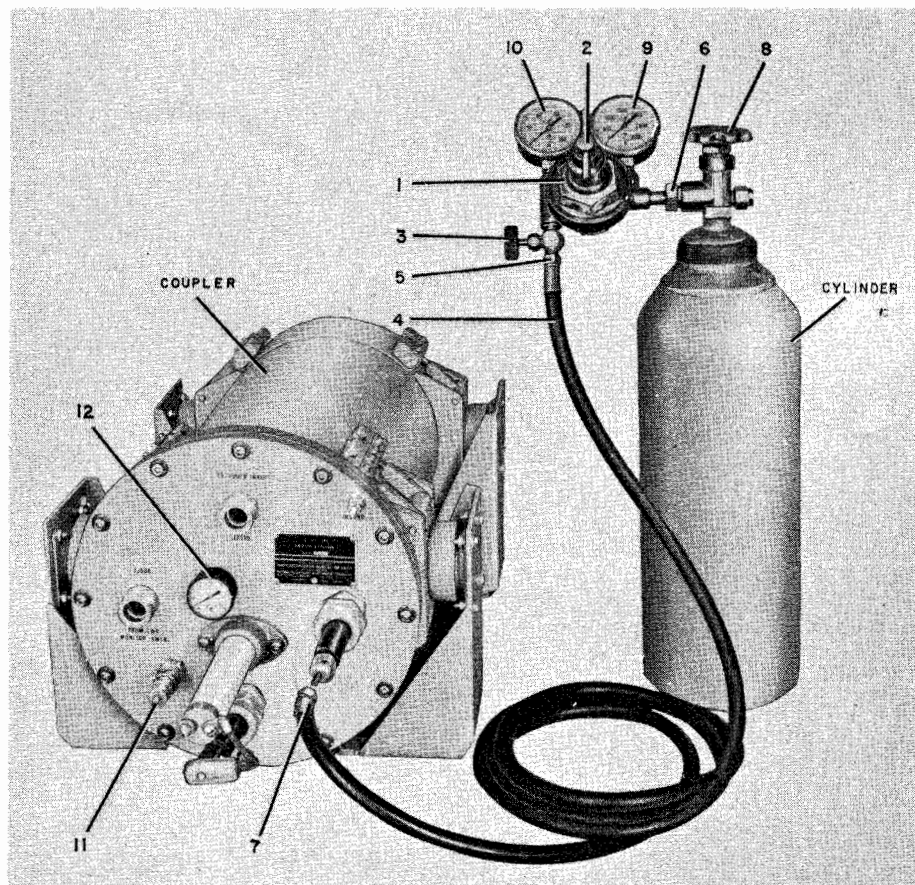

Figure 5-15. Typical Pressurizing Method
f. CHARGING R-F TUNER OR COUPLER. (See figure 5-15.)—When pressure in the r-f tuner or the coupler falls below 15 psi, it will be necessary to add more nitrogen to bring the pressure up to its normal 20 psi. A method for charging these units follows: